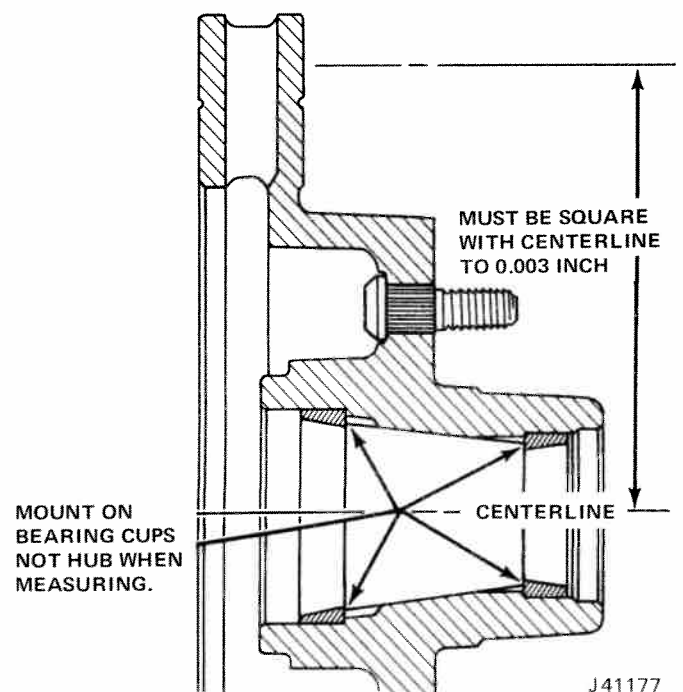

Fig. 9-50 Checking Surface Parallelism
(1) **Hub-to-Rotor Squareness.** Both surfaces must be square with bearing cup centerline within 0.003 inch (total), dial indicator reading. To check, mount hub and rotor to lathe using bearing cups (fig. 9-50).